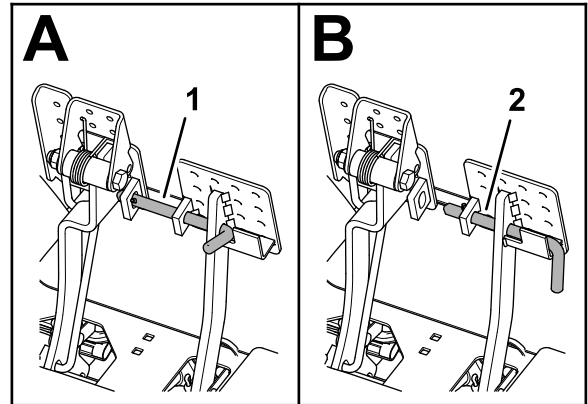

**Figure 147**
8. Assemble the screen onto the hinge pins (Figure 147).